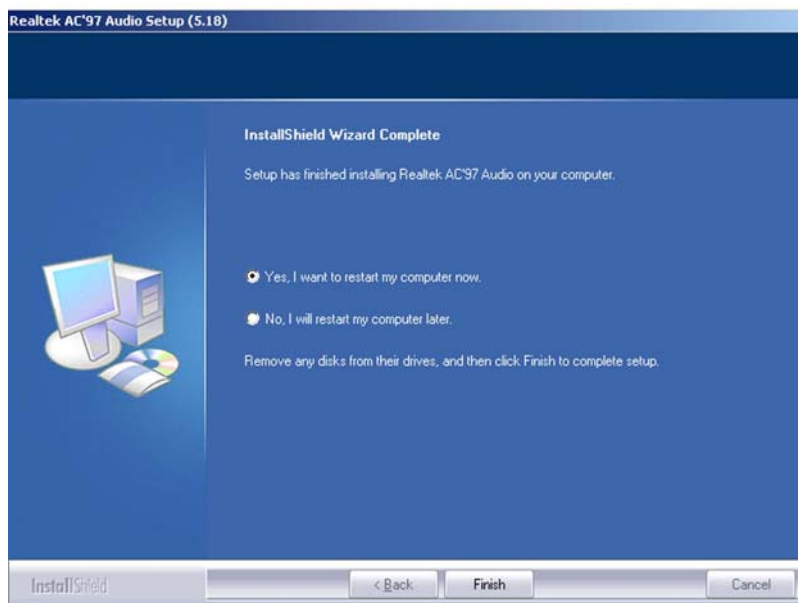

Figure 6-26: AC`97 Audio Driver Installation Complete
Step 9: After the driver installation process is complete, a confirmation screen shown in Figure 6-26 appears.
Step 10: The confirmation screen shown in Figure 6-26 allows you to restart the computer immediately after the installation is complete or to restart the computer later. For the settings to take effect the computer must be restarted. Once you have decided when to restart the computer, click the “FINISH” button.